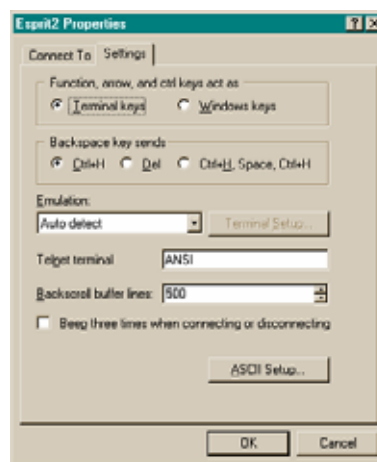

Figure 7-9: HyperTerminal Settings Tab
7. At the HyperTerminal window, click on **File > Properties**, the **Settings** tab (Figure 7-9), then **ASCII Setup**.